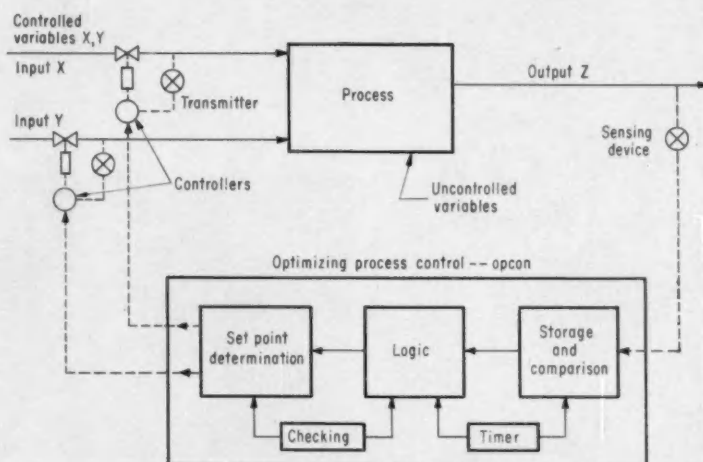

FIG. 3. Opcon applied to control two variables in a process.
- a) Opcon is a multivariable controller (Figure 3). It can control two or more input variables to set the optimum value of the output. Thus, rather than searching along a line for an optimum, Opcon searches in two dimensions or in an area.